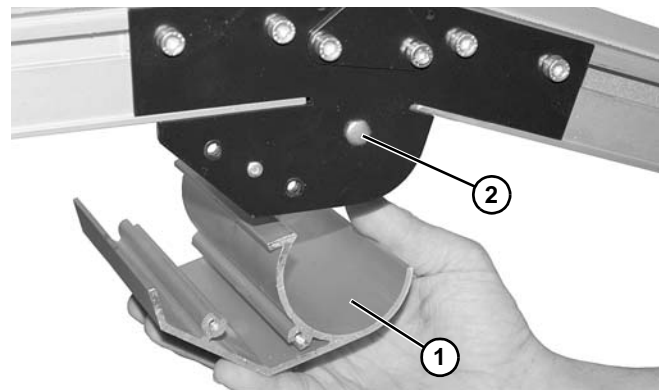

Figure 54
2. Remove guard (**Figure 54, item 1**).